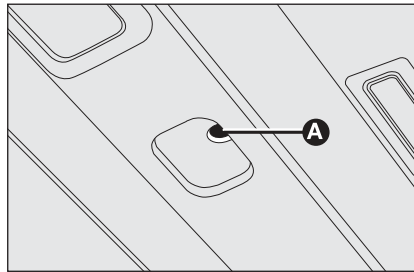

fig. 105
- insert the provided wrench into the seat **A-fig. 105** and turn it: